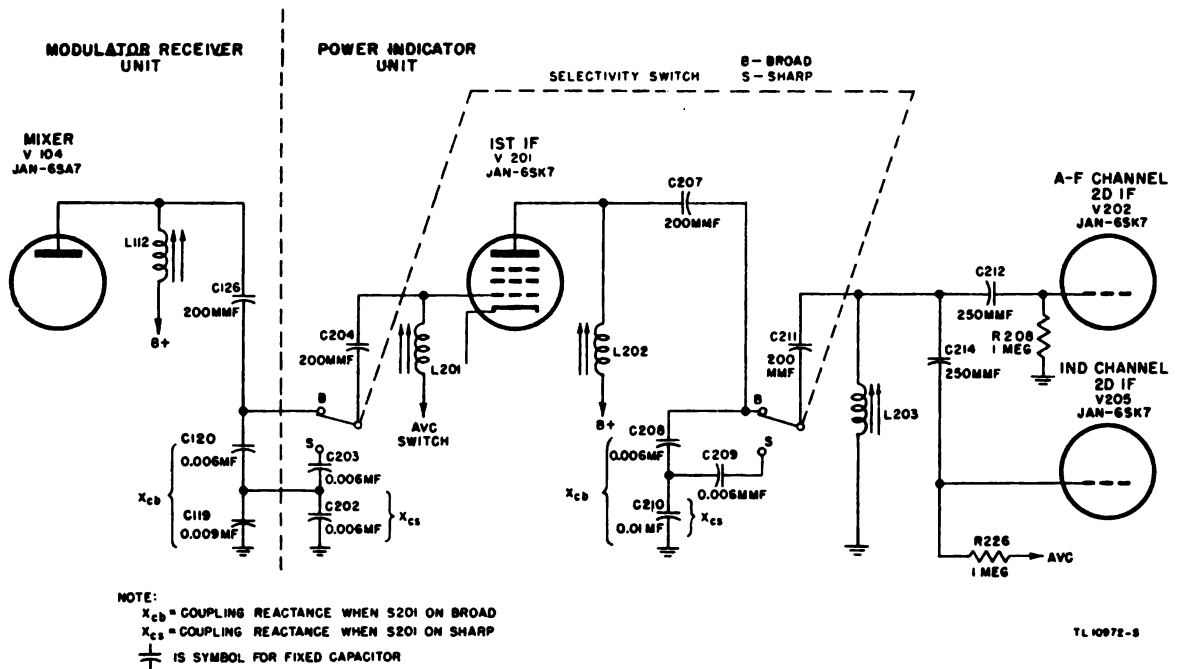

Figure 85. Functional diagram of i-f section.
**d. I-f Amplifier.** Two stages of i-f amplification are used (fig. 85). After amplification in the first stage (tube V201), the i-f signal is split into two channels: one feeds the audio channel, and the other feeds the indicator channel. This separation is required so that the beat-frequency oscillator, used for reception of c-w signals, produces an audible signal from the speaker or earphones without appearing as modulation on the azimuth patterns obtained. The degrees of selectivity (broad and sharp) are obtained